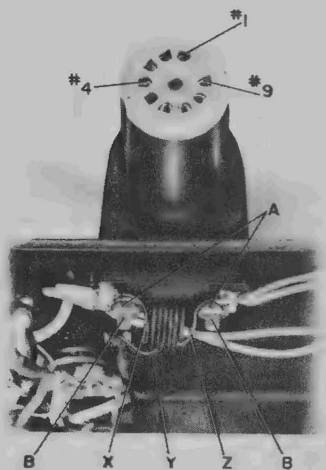

Figure 4-10. Interior view showing mounting of the swivel-support assembly, pivot blocks, and connections.
To replace the swivel-support assembly (see Figure 4-10):
- Loosen (do not remove) two nuts (A, Figure 4-10) and slide the two pivot blocks apart. (The heads of the two screws (B) clamp the pivot blocks in position when nuts (A) are tightened.)
- Insert leads (X, Y, Z) through the slot between screws (B), and hold the swivel-support assembly in position between the two pivot blocks.